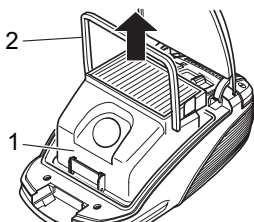

Fig. 24
2. Remove the B-Box (Fig. 24/1) by the handle (Fig. 24/2).